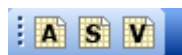

Figure 258 -- SysML Matrices Toolbar
1. Click the icon of the editable matrix that you want to create on the main toolbar (Figure 258):